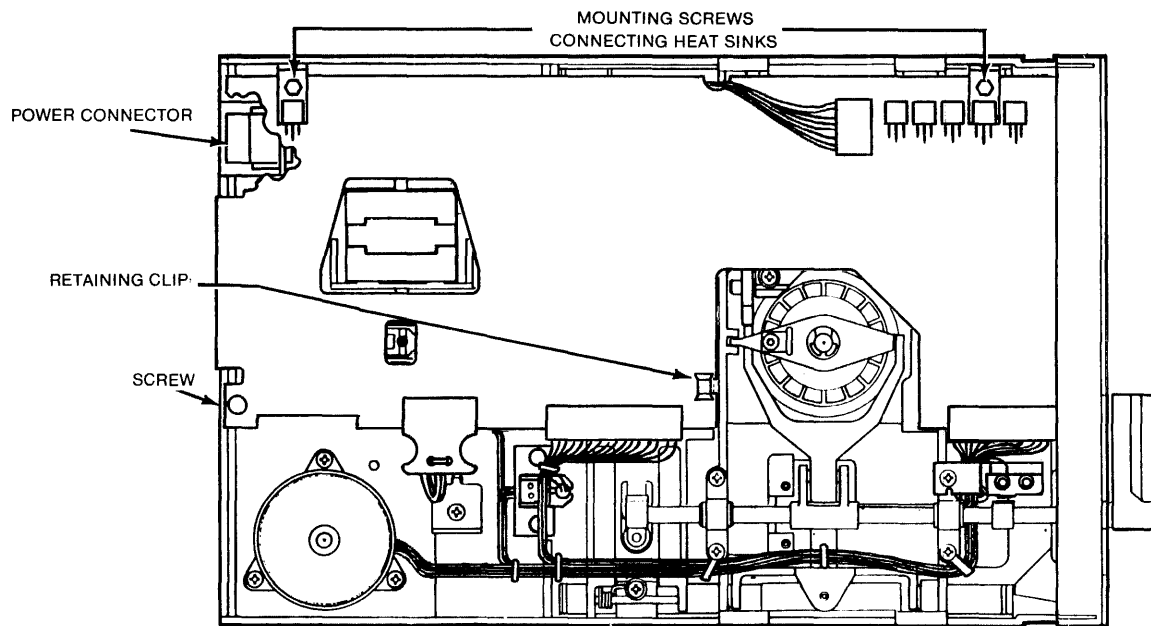

Figure 5-3
- B. Remove the two side mounting screws that connect the two regulator heat sinks to the drive's chassis (see Figure 5-3).
- E. Remove the power connector by pushing down on its top. Lift its wires out, using the slot provided (see Figure 5-3).